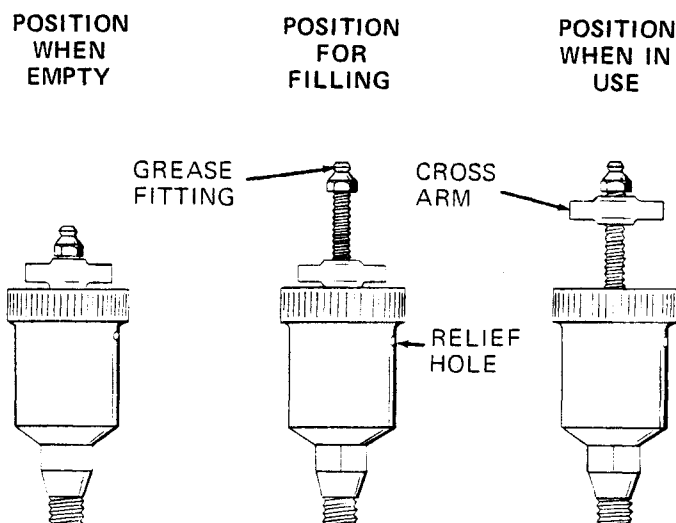

Figure 4. Automatic Lubricating Grease Cup
Before removing the seal assembly, turn the cross arm on the seal grease cup (10) clockwise until it rests against the cover (see figure 4). This will prevent the grease in the cup from escaping after the seal is removed.
Before starting the pump, fill the grease cup through the grease fitting with a good grade of No. 2 pressure gun grease until grease escapes from the relief hole. Turn the grease cup arm counterclockwise until it is at the top of the stem; this will release the spring to apply grease to the seal (see figure 4).